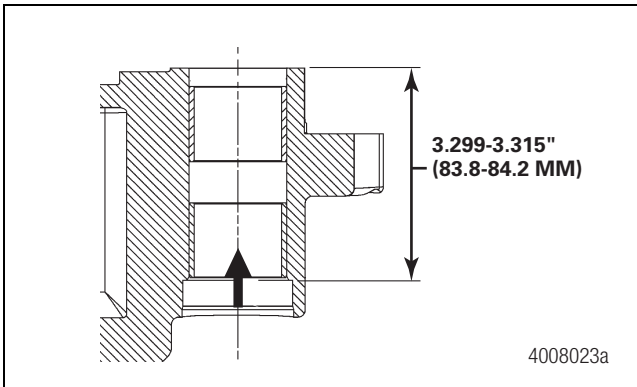

Figure 5.34
- Repeat Steps 1-3 to install the second bushing, but insert the bushing from the end cap side of the bore. To confirm the correct position for the second bushing, measure the distance from the same end face of the housing (on the boot retainer side of the bore) to the bottom of the second bushing. The measurement should be 3.299-3.315-inches (83.8-84.2 mm). Figure 5.34.